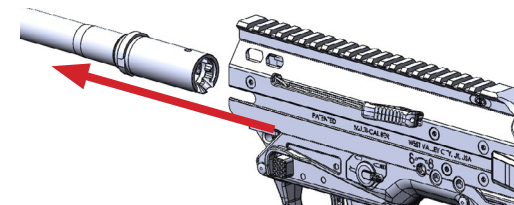

Fig. a-3
- Remove the barrel assembly. (Fig. a-3)